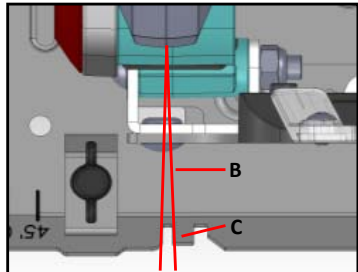

Fig.13
3. Adjust the laser line (B) on the notch (C) then set up the bevel scale at the 0° position. Fig.13